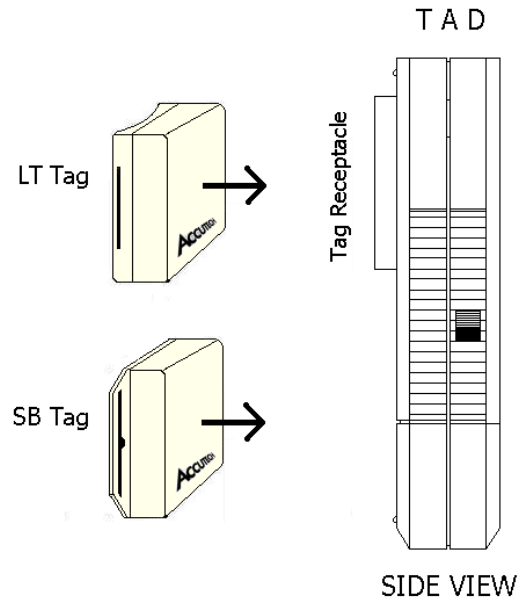

Figure 3.7 Proper Tag orientation
2. Place the Tag into the tag receptacle on the back of the TAD unit in proper orientation for the Tag type (Figure 3.7).